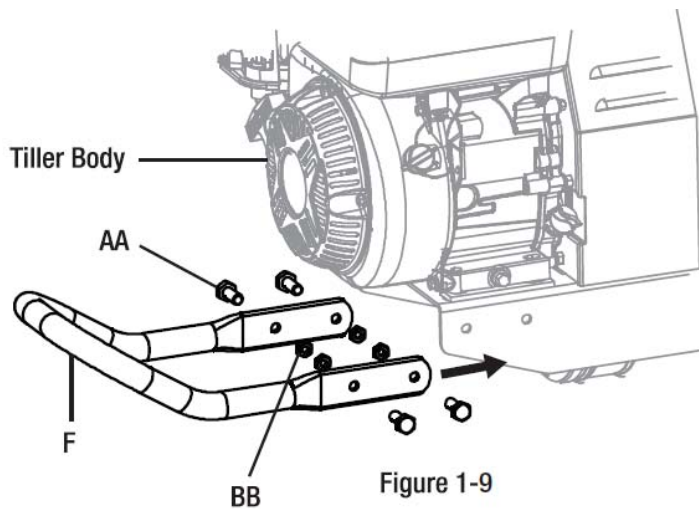

Figure 1-9
Insert the bumper (F) into the front end of the tiller body just below the engine. Align the pre-drilled holes and insert M8x20 bolts (AA) and M8 nuts (BB) and tighten. See Figure 1-9